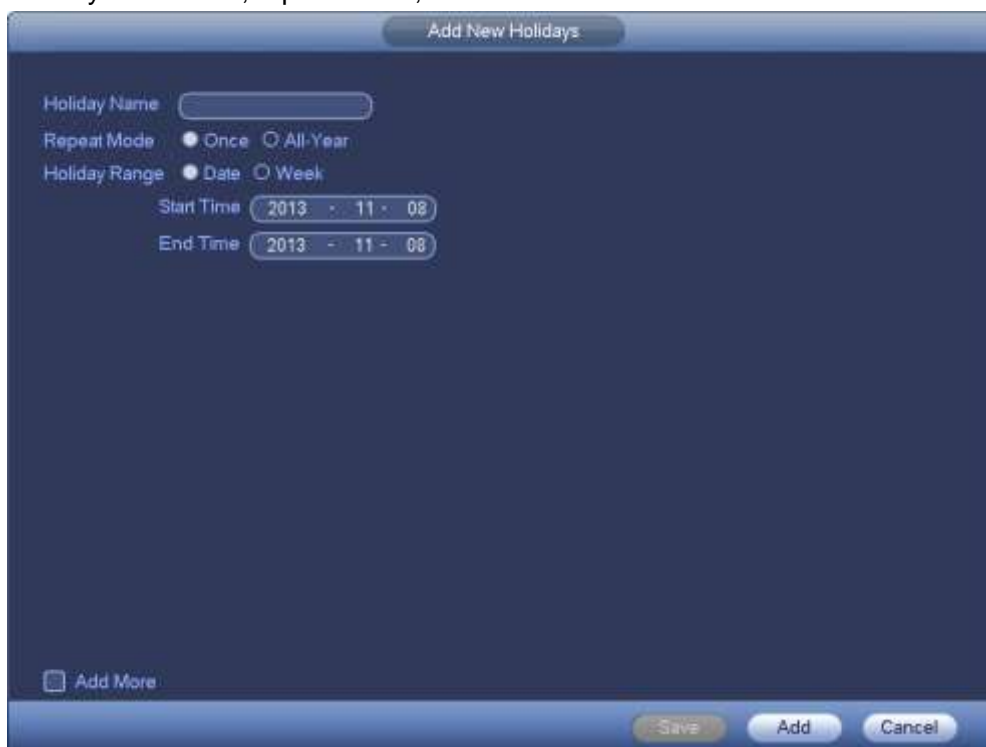

Figure 4-77
- b) Click Add new holiday button, you can see an interface shown as in Figure 4-77. Here you can set holiday date name, repeat mode, start time/end time and etc.